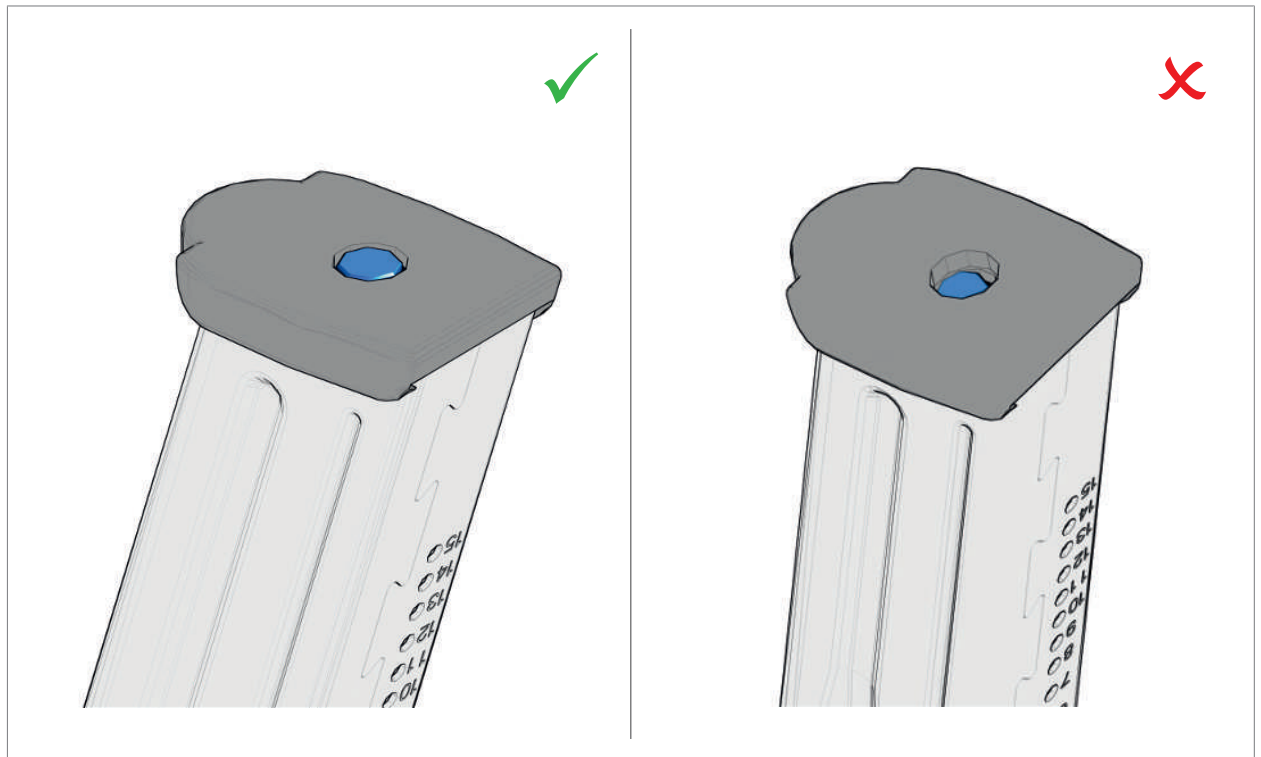

Fig. 74: Magazine floor plate assembly position/insertion
- Slide magazine floor plate onto magazine housing from the front until the magazine locking plate engages in the magazine floor plate (Fig. 74).